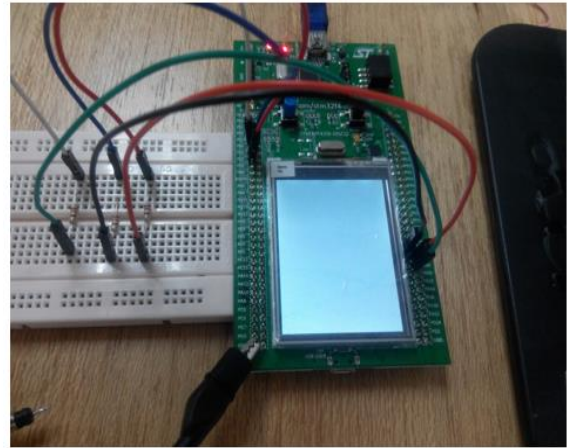

Figure 0(b)
*Figure 0(a) is connected in a way that only master is doing the transmission and reception of data. For Figure 0(b), master and slave is connected through connecting the SCK, NSS, MOSI and MISO pins together.*